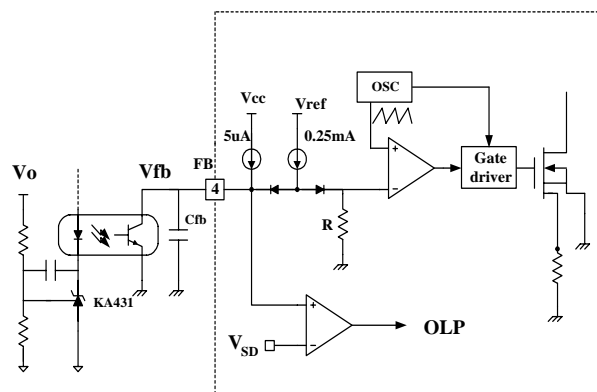

Figure 8. PWM and feedback circuit
**2. Feedback Control :** The FSD200/210 are both voltage mode devices as shown in Figure 8. Usually, a H11A817 optocoupler and KA431 voltage reference (or a FOD2741 integrated optocoupler and voltage reference) are used to implement the isolated secondary feedback network. The feedback voltage is compared with an internally generated sawtooth waveform, directly controlling the duty cycle. When the KA431 reference pin voltage exceeds the internal reference voltage of 2.5V, the optocoupler LED current increases pulling down the feedback voltage and reducing the duty cycle. This event will occur when either the input voltage increases or the output load decreases.